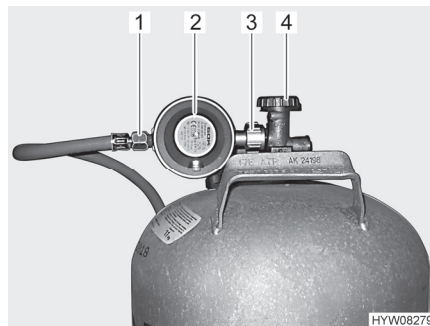

Fig. 126 Gas bottle connection
- Close the regulator tap (Fig. 126,4) on the gas bottle. Pay attention to the direction of the arrow.
- Hold the gas pressure regulator (Fig. 126,2) and open the knurled nut (Fig. 126,3) (normally a left-hand thread).
- Remove the gas pressure regulator and the gas tube (Fig. 126,1) from the gas bottle.
- Position the gas pressure regulator (Fig. 126,2) with gas tube (Fig. 126,1) on the gas bottle and tighten the knurled nut (Fig. 126,3) (normally a left-hand thread). **Do not** tighten too firmly.